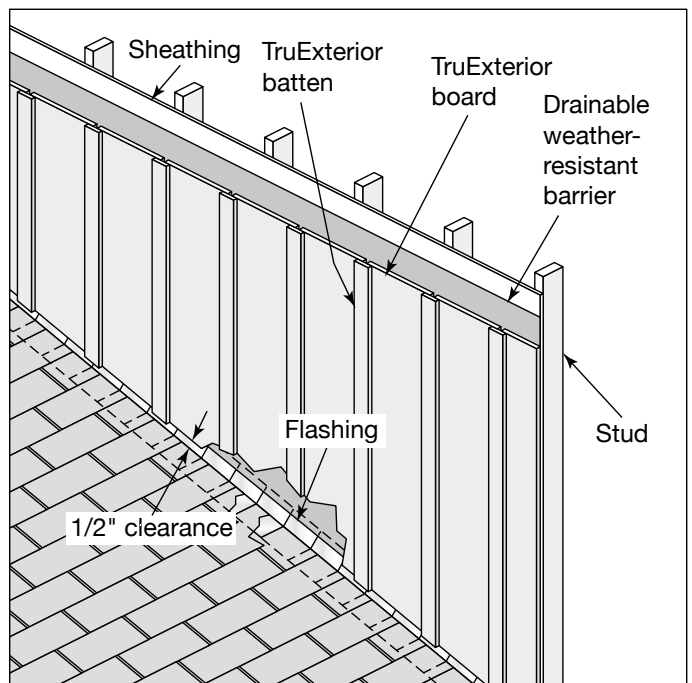

Fig. 3
- Always install a drainable weather-resistant barrier according to local building code requirements (**Fig. 3**).
- Prepare your step flashing along roof and wall lines using your weather barrier, flashing tape or z-flashing as counter flashing (**Fig. 3**).
- Allow 1/2" clearance between the siding and the roof line to help prevent debris from building up (**Fig. 3**).